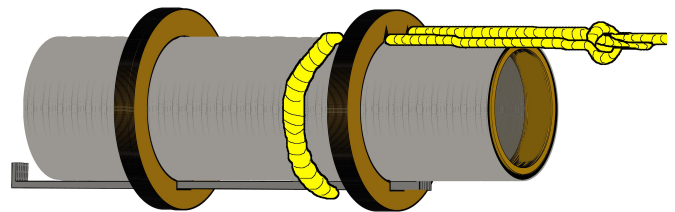

Figure 4
- **Step 21** Tie a knot about 5" from one end of the SCK-24 Kevlar thread. As shown in Fig. 4 above, run the short end of the Kevlar thread through one of the "V" notches from the front, loop it around the body tube, then run it out through the other "V" notch. Tie a slip knot around the long end of the knot,